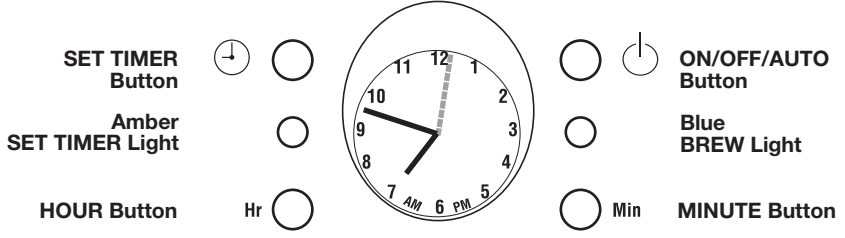

FIGURE 3
10. Locate the Cord Storage area at the bottom back of the unit. Extend cord, fitting it into the bottom cord notch, and plug the unit into a 120V, AC electrical outlet. The second hand and AM/PM display on the bottom of the blue-lit analog Clock will begin to flash. (See Figure 3.) Set the Clock following the instructions below.